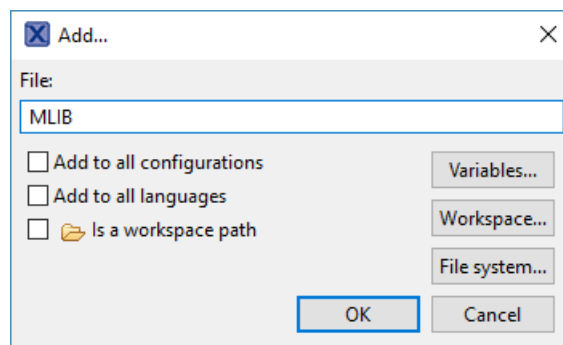

Figure 1-10. Library file inclusion
17. Type the following into the File text box (see Figure 1-10): :mllib.a